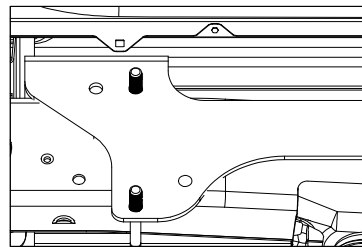
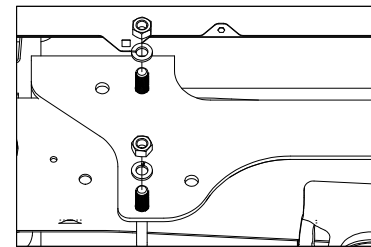

Figure D2: Long Bed U-bolt location.
Figure D4: View looking into driver side wheel well.
2. **Install the U-bolt.** The frame geometry differs between the long bed and short bed versions of the truck. Use Figures D2 & D3 to determine which set of holes you will need to install the U-bolt through depending on the configuration of the truck. Locate a 1/2" x 5 1/2" x 4 1/4" U-bolt, two 1/2" split lockwashers, and two 1/2" finish nuts. Pass the U-bolt up past the frame and under any wiring or brake lines. Turn the U-bolt into the correct mounting holes in the side plate and secure as shown in Figure D4.